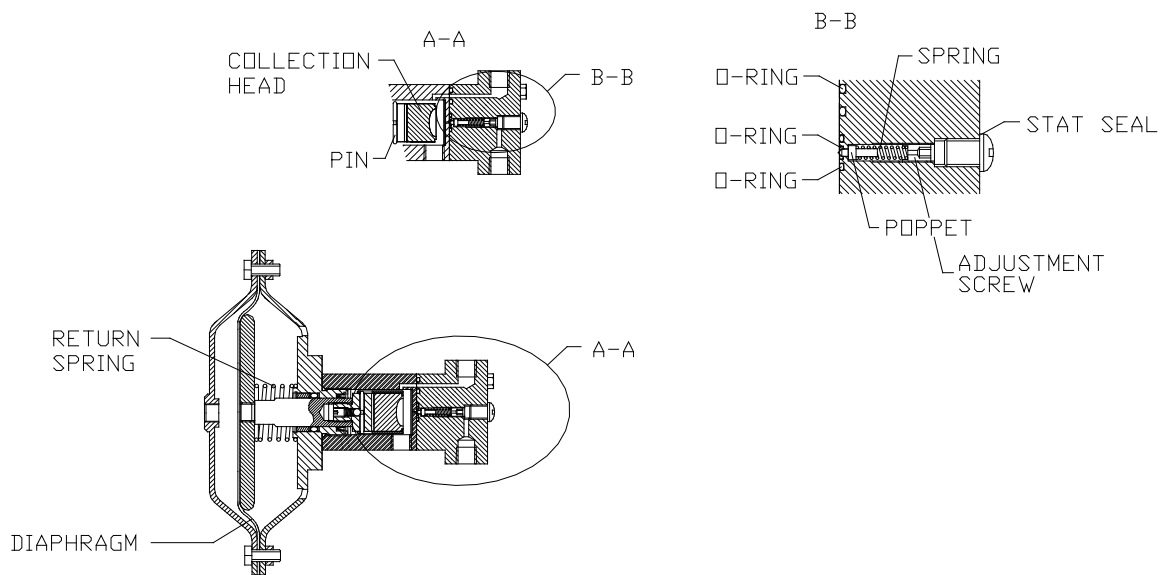

FIGURE 10
4.2.1 See Figure 10.
4.3.1 See Figure 10.